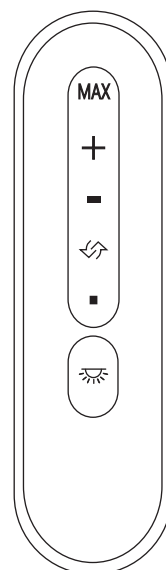

Figure 14
Step 4. Securely tighten the two light kit mounting screws previously loosened and the one previously removed. (Fig. 14)
Restore power to ceiling fan and test for proper operation. (Fig. 14)